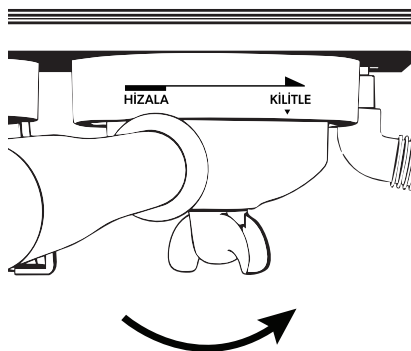
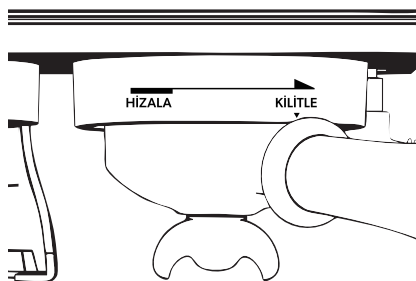

Figure 1
Figure 2
2.2 Insert the portafilter filled with ground coffee into the designated slot as shown in Figure 1. Then firmly turn the handle to the right until it reaches the Lock position shown in Figure 2. This indicates that the portafilter is correctly and securely seated.